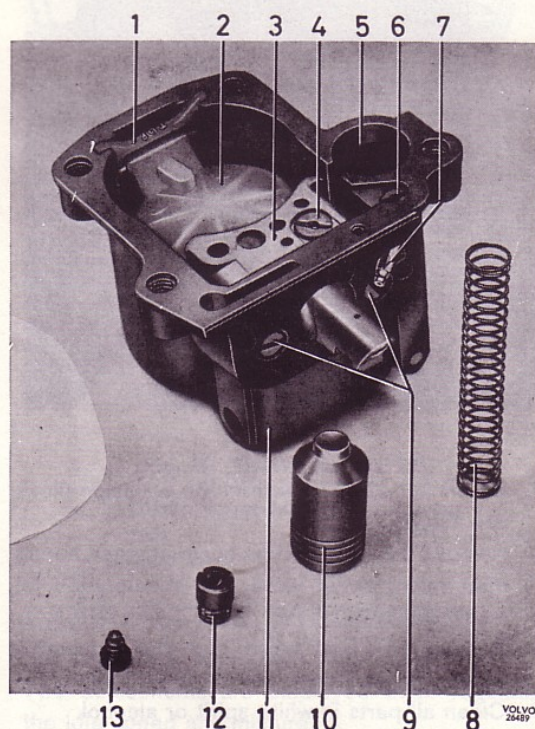

Fig. 82. Float chamber
When cleaning the carburettor it is often sufficient merely to move the floatchamber, take out the float, screw out the air jet for idling (4, Fig. 82) as well as the actual idling jet which is located under the air jet. Also remove the acceleration pump plunger and the idle fuel screw, this screw being on the carburettor housing. Remove the needle valve and check or clean it. Wash the parts concerned in white spirit or alcohol. Blow through all channels and jets with compressed air, including the hole for the idle fuel screw.
2. Remove the lock spring (1, Fig. 82) and lift up the float (2). Note the marking "TOP" on the lock spring.
3. Remove the emulsion block screws (9) and take out the block.
5. Remove the acceleration pump plunger, spring, inlet valve, outlet valve and acceleration jet. See Fig. 82.